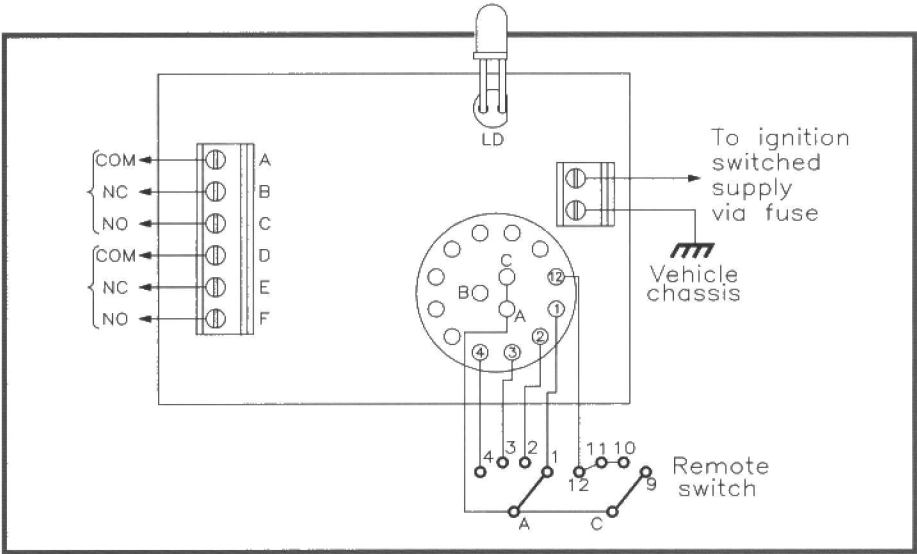

Figure 3. Remote wiring of switch and LED.
Start by fitting D1, which is a small signal diode either 1N4148 or 1N914 type, making sure that the band on the cathode matches that of the PCB legend. Next identify and fit the resistors referring to the Parts List. Orientate the 8-pin DIL IC socket so that the notch at the top of the socket matches the mark on the PCB. Next fit C1 and C3 the two 100nF capacitors, C2 is an electrolytic capacitor which is polarised; it is important to fit the leads correctly. Solder the positive lead, which is slightly longer, towards the top of the PCB, and the negative lead, shown by a series of arrows, towards the bottom. The terminal blocks are next, making sure that the holes point outwards in each case. Next fit relays RY1 and RY2, note that these fit one way round only. The light emitting diode (LD) has a flat surface on one side and this should match the legend on the PCB, see Figure 3. The rotary switch used in the kit is a three pole four way type, although only two poles are used. If the switch does not rotate through four positions it may need to be re-configured. If this is so, unscrew the lock-nut and remove the shake-proof washer, inside is a ring with a locator on it and this must be in position '4'. If not take the ring out, making sure that the switch is fully *anticlockwise* and put the ring back with the locator in this position, and refit the shakeproof washer and locknut. At this point decide whether
the rotary switch is to be soldered directly onto the PCB or whether ribbon cable will be used so that the switch can be mounted remotely. Refer, again to Figure 3, which shows the connections for either option. If the rotary switch is to be soldered directly to the PCB then nothing further needs to be noted; but if ribbon cable is to be used then make sure that the connections match those in Figure 3. The drawing shows poles 'A' & 'C' are common, and also that position '12, 11 and 10' are joined. Last but not least insert IC1 (555) into the 8-pin DIL IC socket, making sure that the notch matches that on the socket.
Testing the circuit is a very simple task; all that is required is a +12V DC power supply. Check first that the rotary switch SW is set to 'OFF' by rotating the spindle anticlockwise to its leftmost position. Connect a +12V DC supply referring to Figure 3, making sure that the polarity is correct. Switch on the supply and LD should illuminate. Next turn the rotary switch clockwise to the second position. The relays will activate for an instant
Remember to disconnect the battery before commencing work. With the relevant information on the electrical connections, refer now between Figures 3 and 4b. First disconnect the link between terminals 53E and 31B. Connect terminal 53E to position D and terminal 31B to position
E on the six position terminal connector. Next connect a lead from terminal 15 to position C, and connect a lead from terminal 53 to position A. Note that there should be nothing connected on either positions B or F. Power for the module should be from a fused ignition switched supply, and this should be connected to the top connection of the two position terminal connector as shown in Figure 3, and the ground connection should be made from the vehicle's chassis to the lower connection.